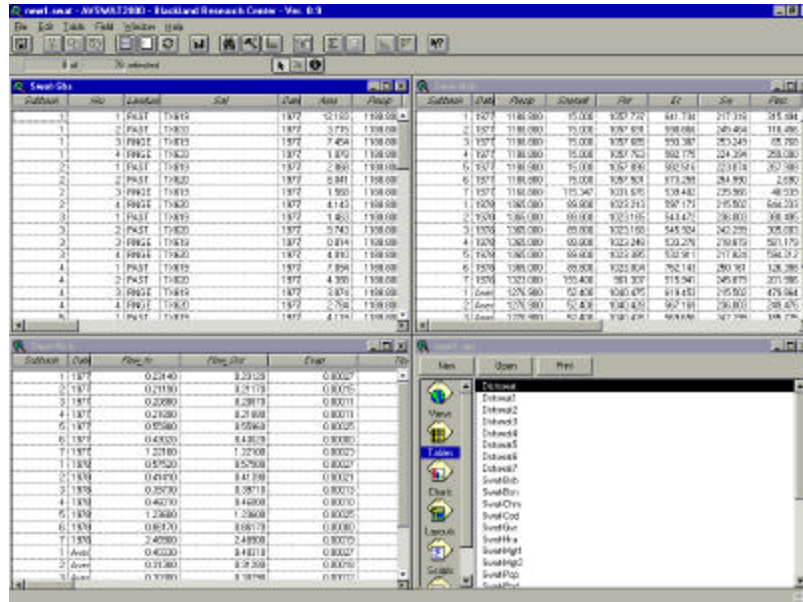

Figure 13.32
- a. If the Calibration Tool was not used and the model did not run a calibration scenario (see next section), the reading routine builds and displays the output tables (Figure 13.32).